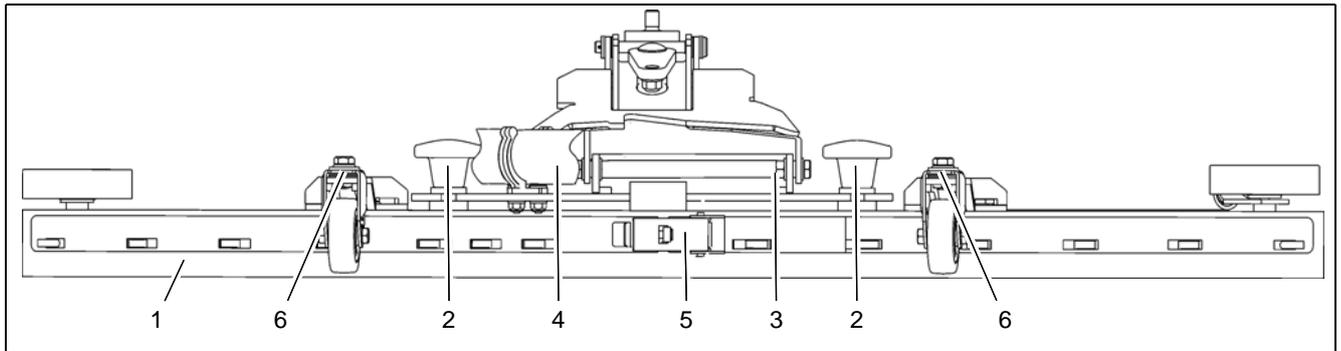

Fig.11
Check the squeegee (Fig. 11/1) daily and clean as necessary. To clean it lift the squeegee out, pull off the suction hose (Fig. 11/4), loosen the two star-shaped knobs (Fig. 11/2) and remove the squeegee.
Check the inner and outer sealing strips on the squeegee (Fig. 11/1) weekly for signs of wear. The sealing strips can be used fourfold by turning them.
3. Unlock the fastening device (Fig. 11/5) and remove the outer sealing strip. Turn the sealing strip or install a new one, as necessary. Change the inner sealing strip in the same way.